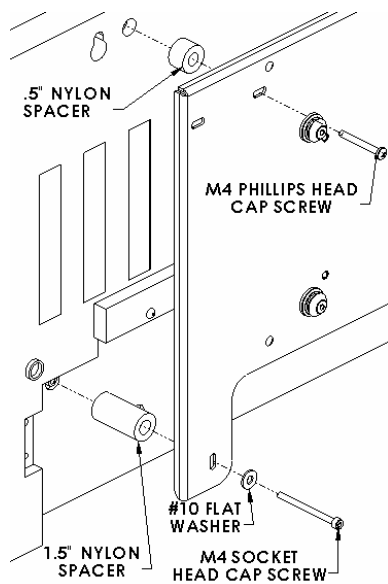
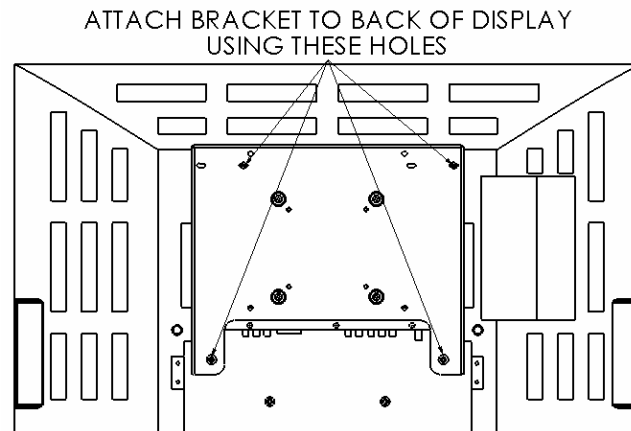

Figure 3
Figure 4
2. Remove screws from upper mounting holes on back of display. Place white nylon spacers on upper mounting holes and black nylon spacers on lower mounting holes, aligning hole pattern on brackets with pattern on back of display (see Figure 3 and Figure 4).